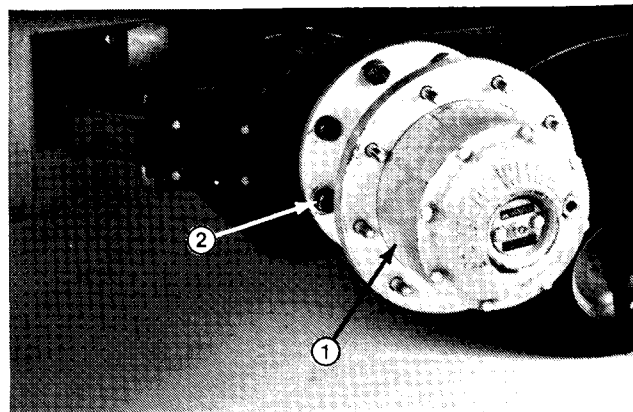

Figure 19
4. Remove eight (8) capscrews and lockwashers securing planetary wheel drive to brake housing (Fig. 19). Pull wheel drive out approximately 1/2 in. and allow oil to drain out.